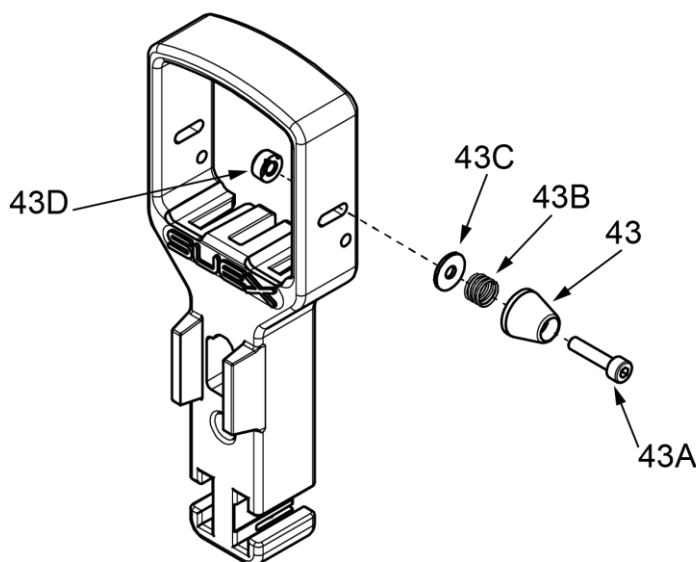

Fig 28 - Place cruise control on the right side
- Unscrew the screw (43A) by locking the nut (43D **Fig 28 - a pag. 21**) (use the tools provided),
- reposition all cruise control components on the right side of the handle respecting the sequence (see **Fig 28 - a pag. 21**).